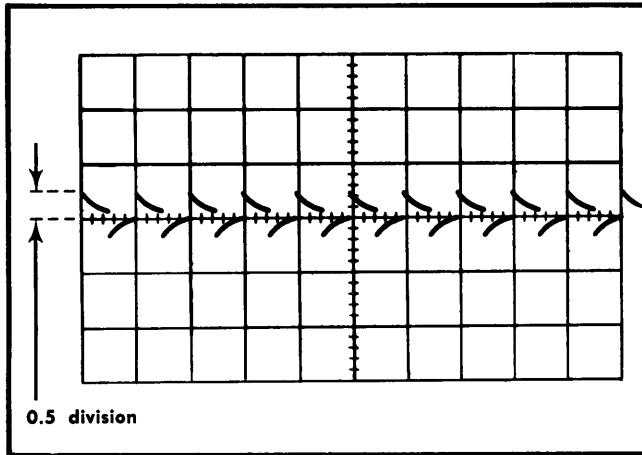

Fig. 5-48. Typical CRT display when checking calibrator current.
- CHECK—CRT display 0.5 division in amplitude (five milliamperes; see Fig. 5-48).